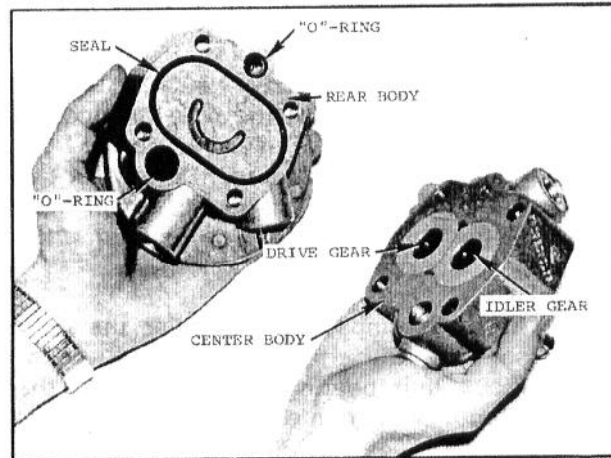

FIG. 6 — REAR AND CENTER BODY SEPARATED
5. Separate the center body from the rear body as shown in Fig. 6. Remove the two gears and four bearings from the center body and the "O"-rings and seal from the rear body.
3. Dip new "O"-rings and new seals into clean hydraulic oil and install into rear body. Position center body onto rear body as shown in Fig. 6.